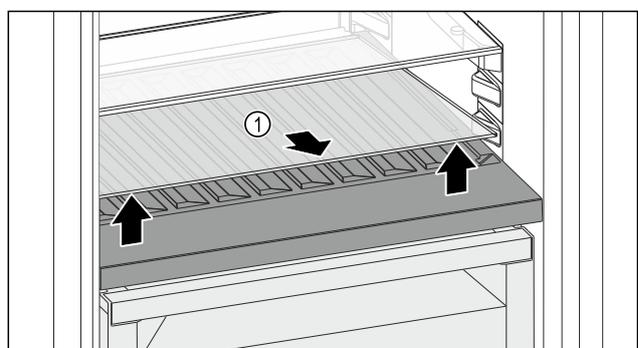

Fig. 114
- ▶ Lift the glass shelf Fig. 114 (1) at the front and remove.
- ▶ Store the glass shelf Fig. 114 (1) in a safe place outside the appliance.